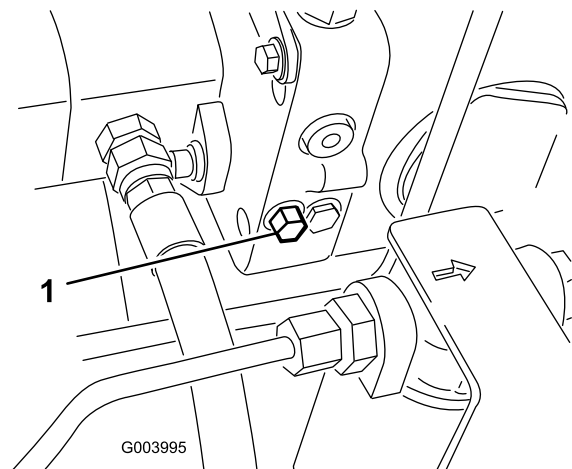

Figure 43
1. The bypass valve is located on the left side of the hydrostat (Figure 43). Rotate the bolt 1-1/2 turns to open and allow oil to bypass internally. Because fluid is bypassed, the machine can be moved slowly without damaging the transmission.